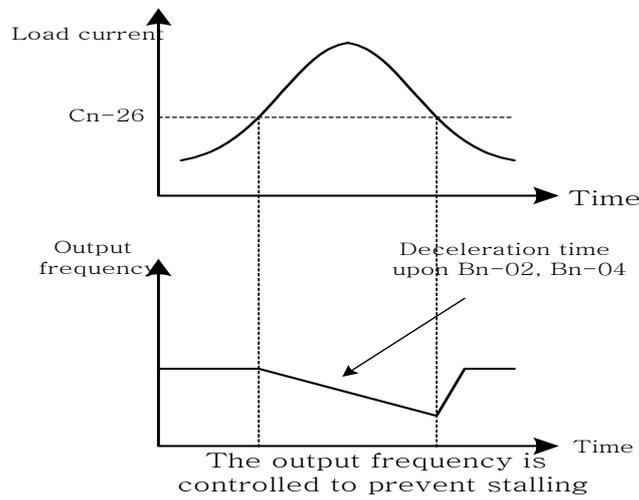

Fig 25 Run stall prevention function
- Stall Prevention During running : See Fig 25. Deceleration is started if the run stall prevention level Cn-26 is exceeded, especially when an impact load is applied suddenly. Accelerate again when the current level is lower than Cn-26.